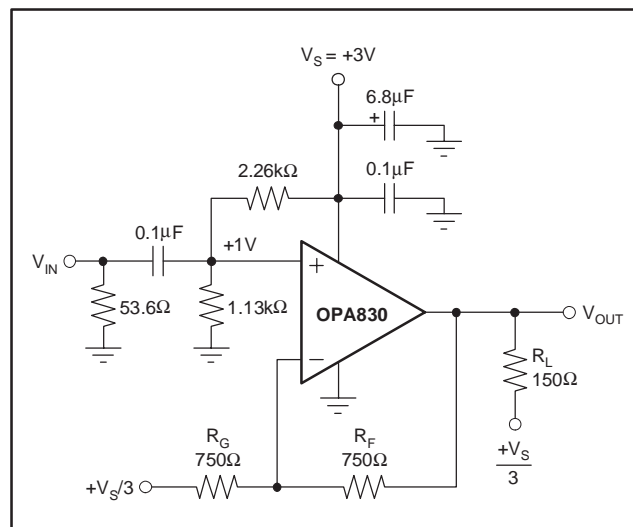
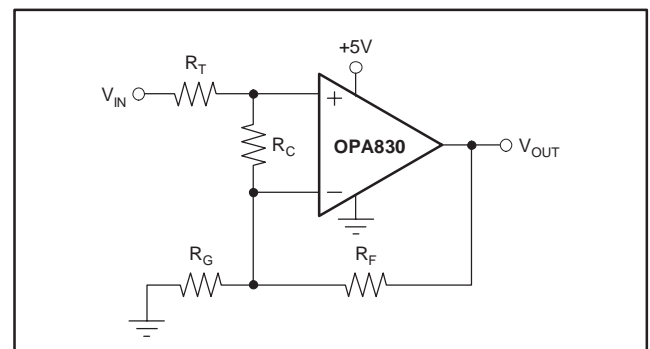

Figure 2. AC-Coupled, G = +2, +3V Single-Supply Specification and Test Circuit
Figure 7. Compensated Noninverting Amplifier
At $T_A = 25^\circ\text{C}$, $G = +2$, and $R_L = 150\Omega$ to $V_S/3$, unless otherwise noted (see Figure 2).
Figure 2 shows the AC-coupled, gain of +2 configuration used for the +3V Specifications and Typical Characteristic Curves. For test purposes, the input impedance is set to 50Ω with a resistor to ground. Voltage swings reported in
the Electrical Characteristics are taken directly at the input and output pins. For the circuit of Figure 2, the total effective load on the output at high frequencies is $150\Omega \parallel 1500\Omega$. The 1.13kΩ and 2.26kΩ resistors at the noninverting input provide the common-mode bias voltage. Their parallel combination equals the DC resistance at the inverting input (R_F), reducing the DC output offset due to input bias current.
Figure 7 shows a noninverting amplifier that reduces peaking at low gains. The resistor R_C compensates the OPA830 to have higher Noise Gain (NG), which reduces the AC response peaking (typically 5dB at $G = +1$ without R_C) without changing the DC gain. V_{IN} needs to be a low
Frequency response in a gain of +2 may be modified to achieve exceptional flatness simply by increasing the noise gain to 3. One way to do this, without affecting the +2 signal gain, is to add an 2.55k Ω resistor across the two inputs, as shown in Figure 7. A similar technique may be used to reduce peaking in unity-gain (voltage follower) applications. For example, by using a 750 Ω feedback resistor along with a 750 Ω resistor across the two op amp inputs, the voltage follower response will be similar to the gain of +2 response of Figure 2. Further reducing the value of the resistor across the op amp inputs will further dampen the frequency response due to increased noise gain. The OPA830 exhibits minimal bandwidth reduction going to single-supply (+5V) operation as compared with $\pm 5V$. This minimal reduction is because the internal bias control circuitry retains nearly constant quiescent current as the total supply voltage between the supply pins is changed.
The criterion for setting this R_S resistor is a maximum bandwidth, flat frequency response at the load. For a gain of +2, the frequency response at the output pin is already slightly peaked without the capacitive load, requiring relatively high values of R_S to flatten the response at the load. Increasing the noise gain will also reduce the peaking (see Figure 7).